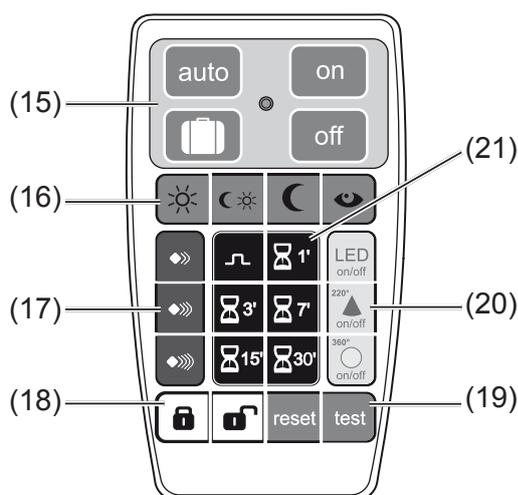

Figure 10: Key assignment of the hand-held transmitter
If the hand-held transmitter is locked, no IR signals are transmitted when the buttons are pressed. The exceptions to this are the operation buttons (Figure 10, 15) and the locking buttons (18). These are always active.